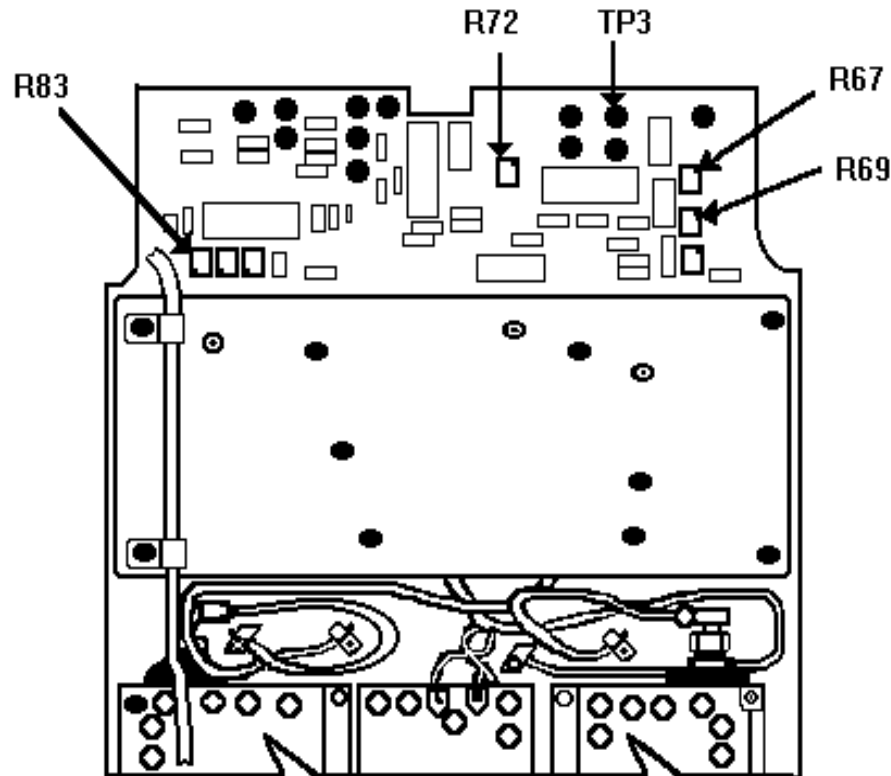

Figure. 13. Receiver card layout.
(13) If RF power output level of the radar test set (at the just solid waveform point) including insertion loss of circulator and cable, is not between 2 to 4 dBm greater than (8) above, perform **b** (3) and (4) below.
(14) Remove oscilloscope test probe from TJ 29 of control box and connect to TP3 (fig. 13) of the receiver card.
- (1) Adjust radar test set RF power output to include insertion loss of circulator and cable values for a level as close to -24 dBm as possible at TI SUM connector input.
- (2) Adjust R67 (fig. 13) until waveform (fig. 6, inset H) is at the just solid point.
- (3) Adjust radar test set RF power output to include insertion loss of circulator and cable values for a level as close to -21 dBm as possible at TI SUM connector input.
- (4) Adjust R69 (fig. 13) until waveform (fig. 6, inset I) is at the just solid point.
- (5) Adjust radar test set RF power output to include insertion loss of circulator and cable values for a level as close to - 11 dBm as possible at TI SUM connector input.
- (6) Adjust R72 (fig. 13) until waveform (fig. 6, inset J) is at the just solid point.
- (1) Adjust radar test set **MAIN FREQ** (menu 10) to **1087 MHz**.
- (2) Adjust R83 (fig. 13) until pulse has just appeared on oscilloscope display (R).